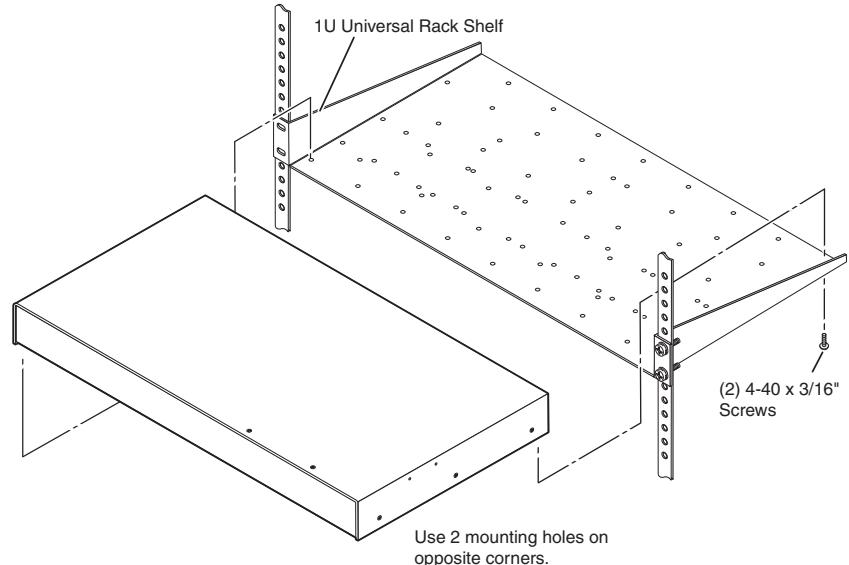

Figure 2-1 — Mounting the unit on a standard rack shelf
The following Underwriters Laboratories (UL) guidelines pertain to the installation of as SW6 VGA Audio into a rack (figure 2-1).
- RSU 129 9" 1U universal rack shelf kit (part #60-190-01) (figure 2-1)